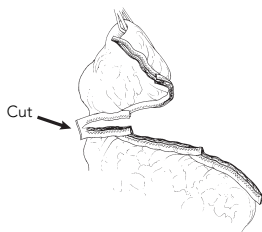

FIGURE 15
13. If necessary, cut the end of the Peri-Strips Dry to remove the dissected tissue (See figure 15).